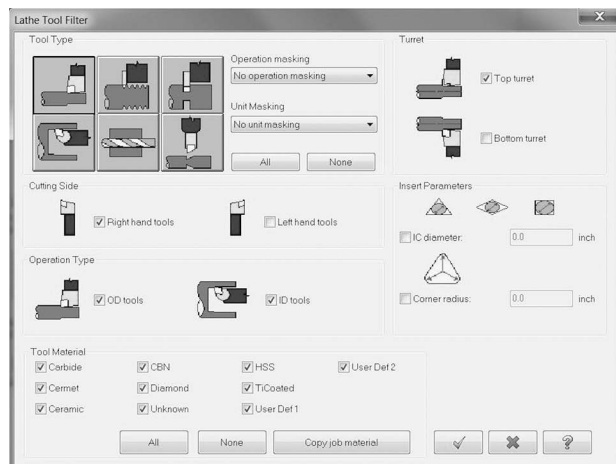

Figure 5-63 Lathe Toolpaths Toolbar
- Right-click in the empty space of the tool bar area and select Load Workspace. From the list, select the Lathe. The Tool bar (Figure 5-63) will be placed to the left of the display area.